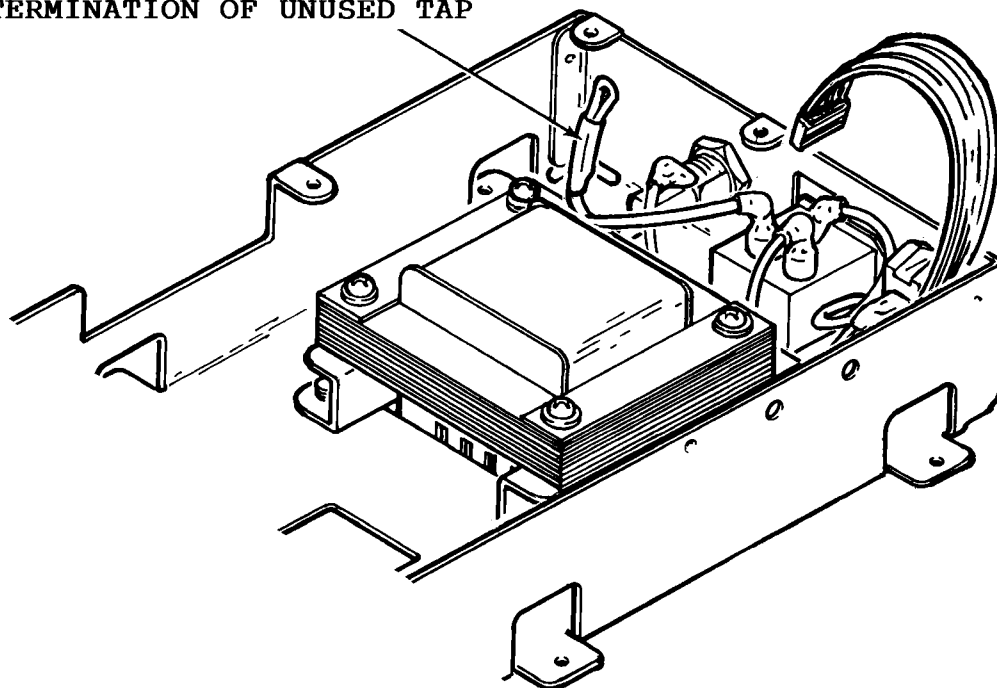

Figure 7-4. Proper Insulation of T1.
- d. Inspect insulation on unused tap of T1. The end of this wire should be insulated with electrical tape or heat shrink tubing as shown in Figure 7-4.